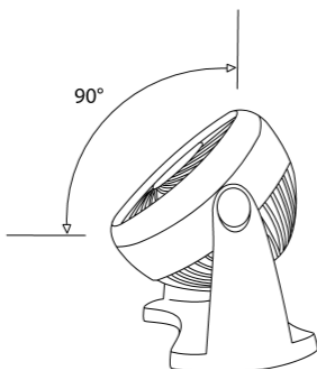

Fig. 4
5. It is possible to set the desired fan angle in the range of 90 ° (Fig. 4).